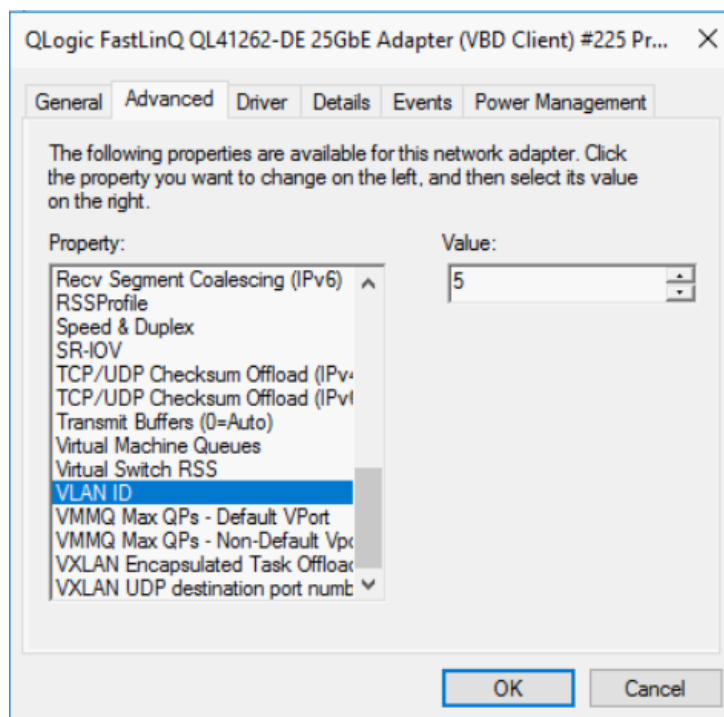

Figure 15-12. Advanced Properties: Setting VLAN ID
- b. On the adapter properties' Advanced page (Figure 15-12) under **Property**, select **VLAN ID**, and then set the value.